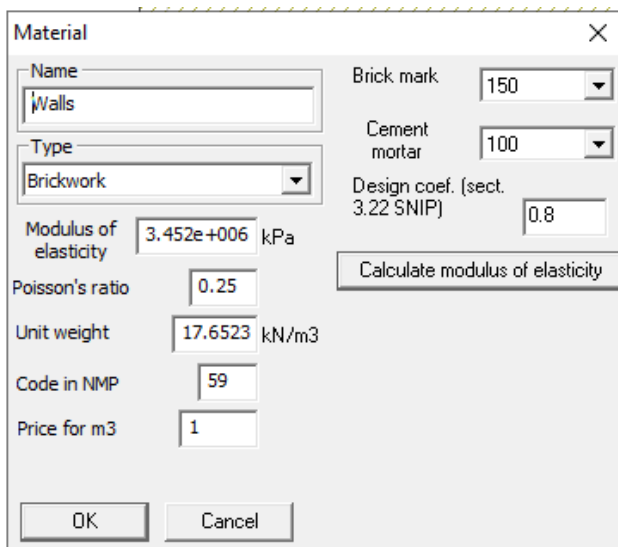

Fig. 5 – Dialog box for specifying brickwork for walls
- in the **Type** field (Fig. 5), select “Masonry”, specify the brick and mortar grades, price per m3 in the appropriate fields, and click the “Calculate modulus of elasticity” button.